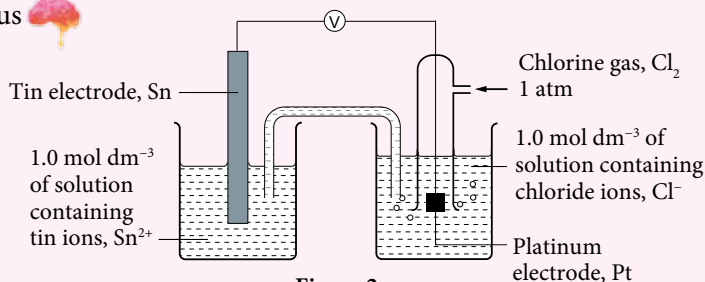

Figure 2
6. Figure 2 shows a set-up of apparatus for a voltaic cell. With reference to the half-cell standard electrode potential, E^0 :